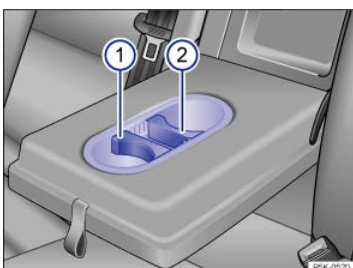

Fig. 130 Cup holders in the rear center armrest (version 2).
Some cup holders have inserts that can be positioned to hold beverages of different sizes ⇒ Fig. 130. To *adjust* the cup holder to the size of the cup, pull the insert ① or ② upward and reposition them to fit the size of the cup.